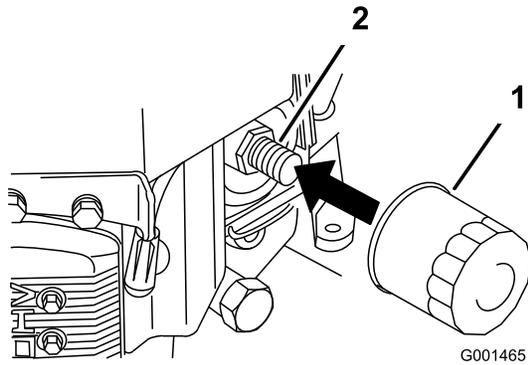

Figure 37
- Remove the old filter (Figure 37).
- Apply a thin coat of new oil to the rubber gasket on the replacement filter (Figure 37).
- Install the replacement oil filter to the filter adapter, turn the oil filter clockwise until the rubber gasket contacts the filter adapter, then tighten the filter an additional 3/4 turn (Figure 37).